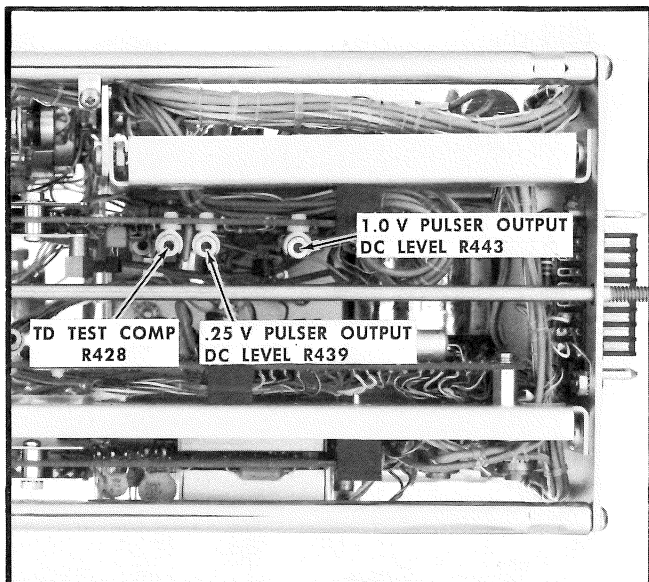

Fig. 7-26. Location of Pulser adjustments, bottom of Type 1S2.
f. Adjust the Type 1S2 1.0 Volt PULSER DC OUTPUT LEVEL, R443 (Fig. 7-26), while alternately connecting and disconnecting the signal, to set the pulse start at the same level as the baseline.
- h. Adjust the Type 1S2 PULSER OUTPUT DC LEVEL, R439 (Fig. 7-26), while alternately connecting and disconnecting the signal to set the pulse start at the same level as the baseline.